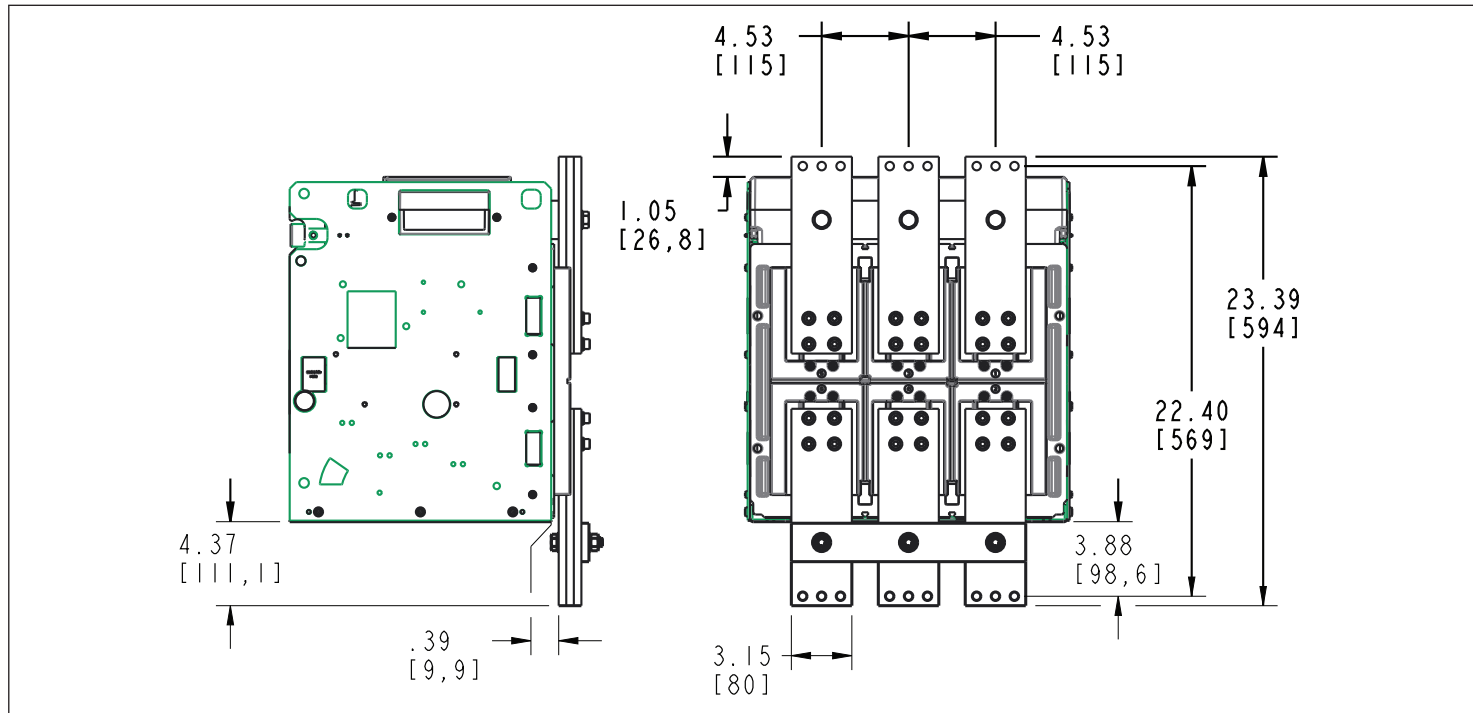

Figure 5. Drawout Front Connect Adaptors - 3200A Shown (dimensions in inches [mm])
Step 5: Refer to Figures 5 and 5a for applicable configuration and dimensions.